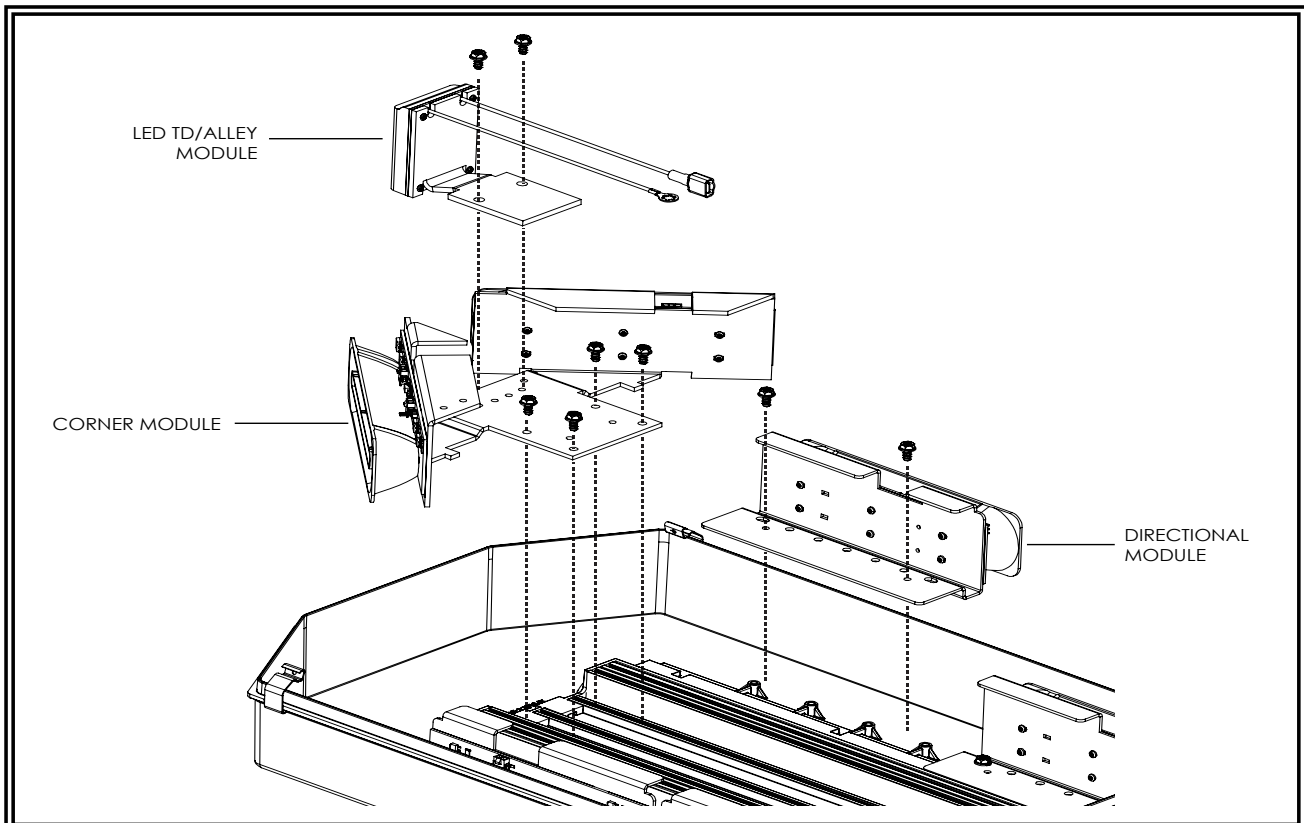

FIGURE 9
1. Remove screw(s) securing the light head assembly to the lower lens as shown in FIGURE 9.